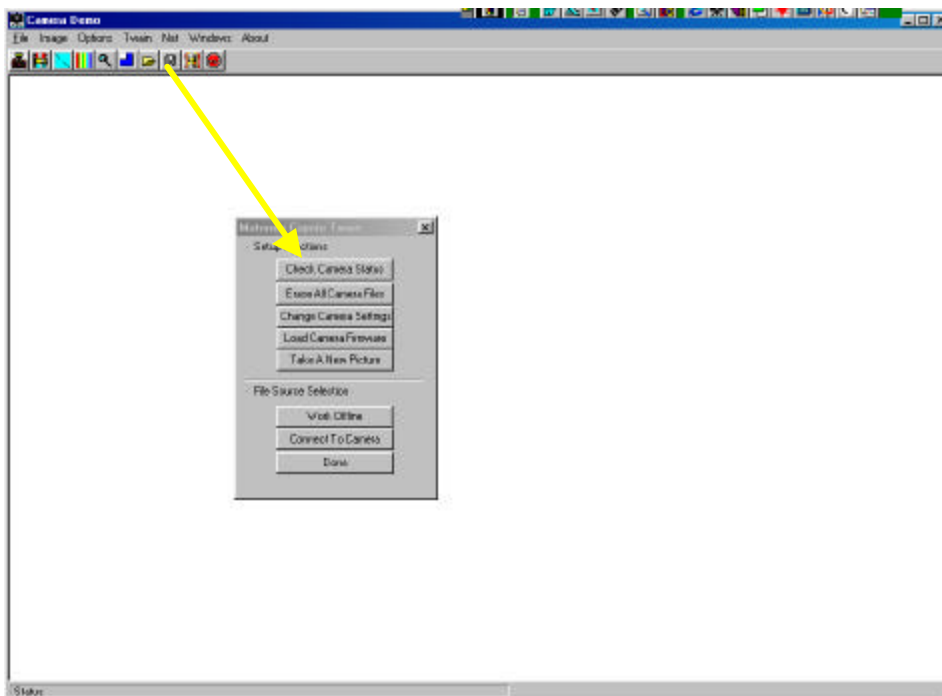

Figure 14-4
**Step 2)** Then select “Acquire” from the submenu. From this menu, there is a list of functions, which can be carried out, they are as follows: (See Figure 14-4 below)